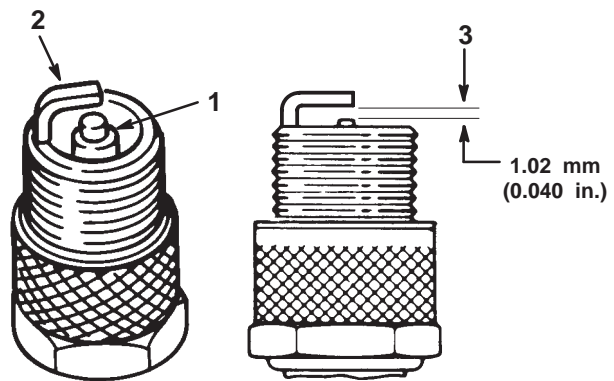

Figure 30
1. Look at the center of the spark plug(s) (Fig. 30). If you see light brown or gray on the insulator, the engine is operating properly. A black coating on the insulator usually means the air cleaner is dirty.
2. Check the gap between the center and side electrodes (Fig. 30). Bend the side electrode (Fig. 30) if the gap is not correct.